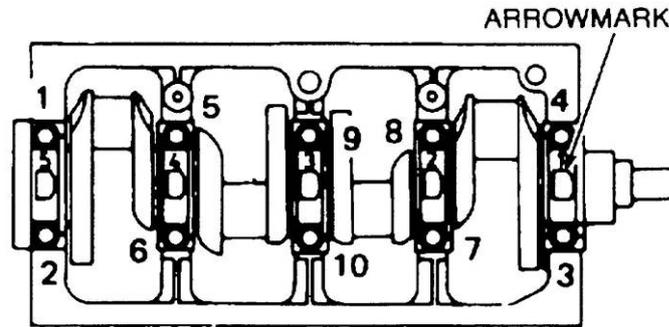

Figure 18 Main Bearing Bolt Removal Sequence
- kk. Using the sequence shown in Figure 18, remove the crankshaft main bearing bolts and bearing caps, ensuring that each bearing cap is numbered. With the aid of a suitable piece of wire, push the thrust bearings out.